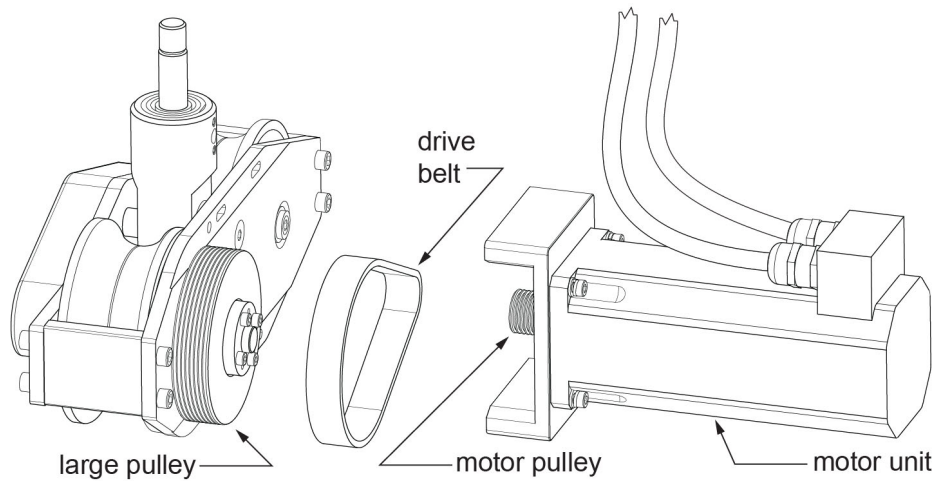

Figure 15 - Detaching the motor unit from the drive wheel set
2. Detach the motor unit as shown in **Figure 15**.